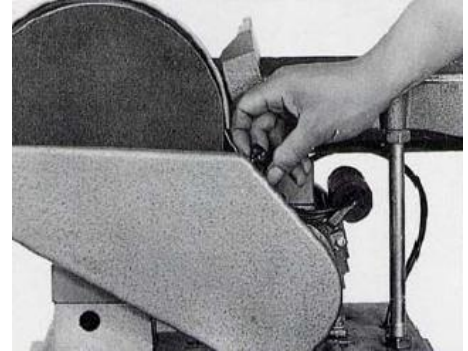

Fig. 12
3. Open the side guard by loosening the knob (fig.12).